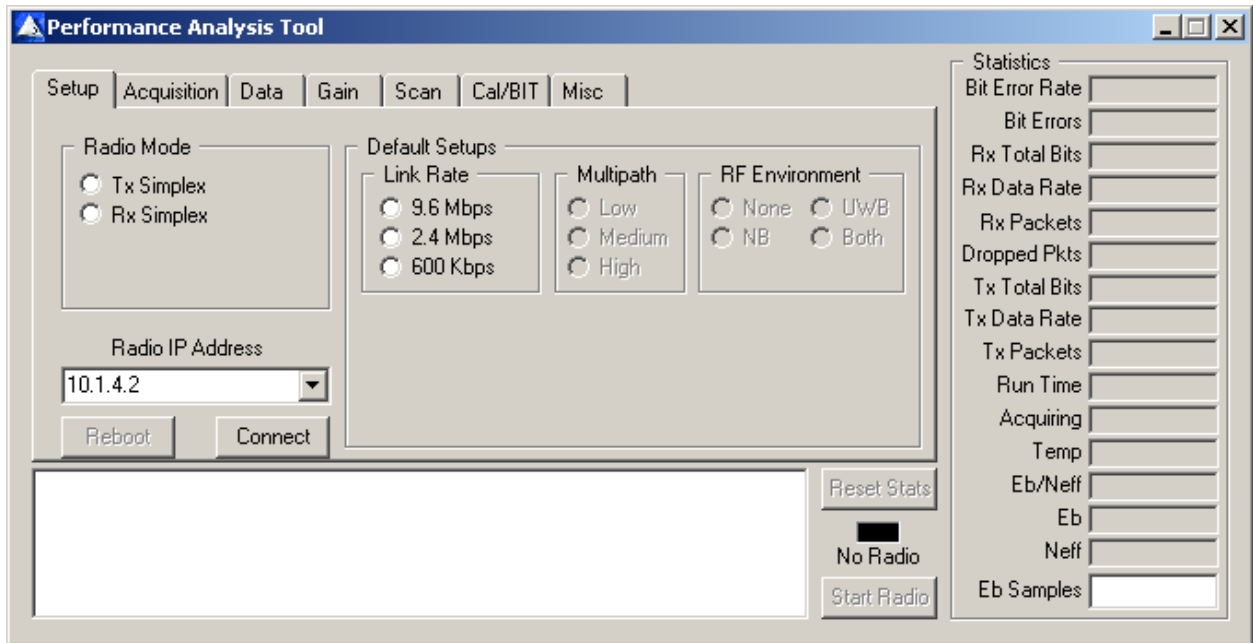

Fig. 10: Using the PAT interface to connect with the PulsON 200 radio
- Enter the Radio IP Address on the Setup tab (Fig.10). The default IP address is 10.1.4.2.